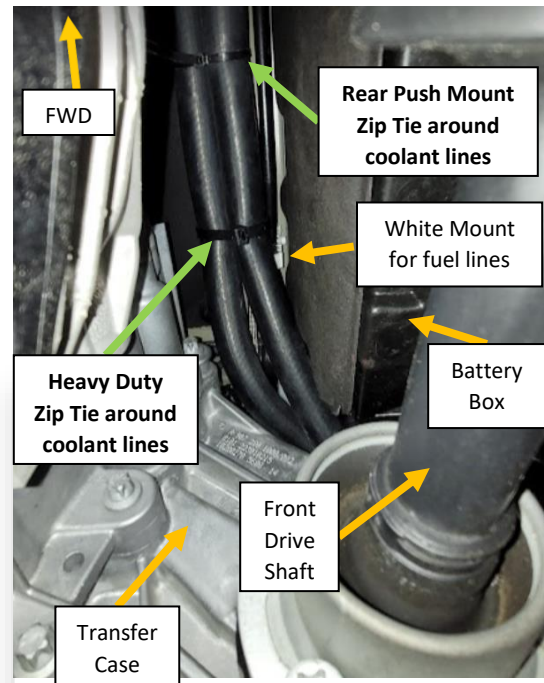

Figure 6
10. Secure 1 heavy duty zip tie around the coolant lines and the hole in the chassis frame member just in front of the white chassis hose mount that is located between the battery box and the transfer case and above the front driveshaft on the underside of the van body floor. NOTE: Be sure to not bundle the fuel lines that are routed through the white mount with this zip tie. It is easiest to feed the zip tie between the fuel lines and the frame member first, then through the hole in the frame member and then around the coolant lines to secure. See figure 6